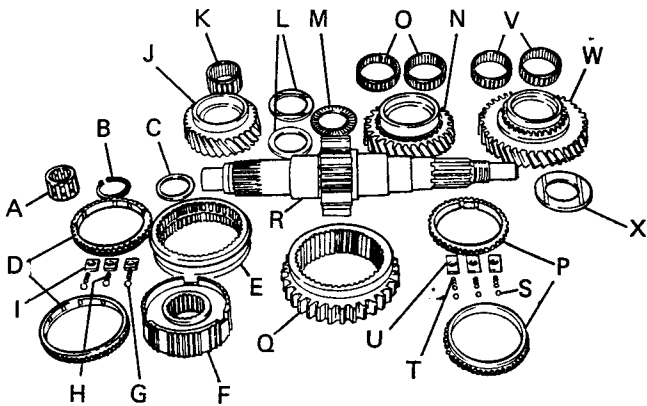

Fig H1.147
5. Refer to Fig H1.147. Examine all the parts that comprise the mainshaft assembly to see if wear or damage exists, replacing any part if necessary.